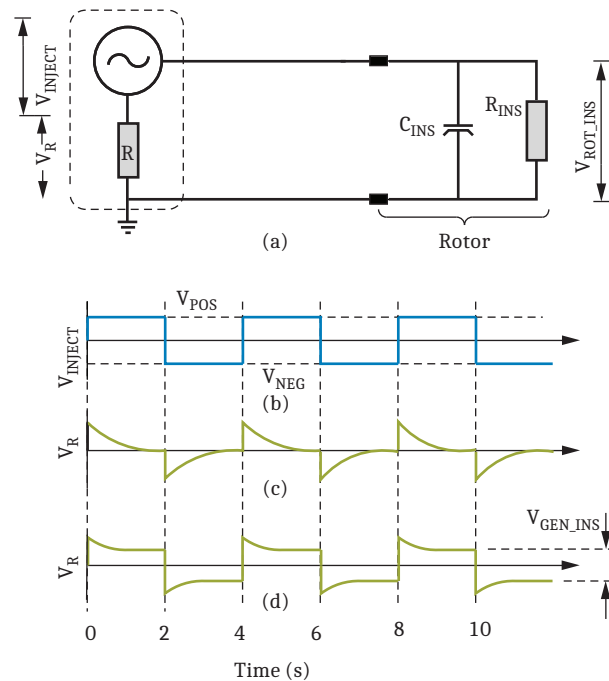

Figure 15 SEL-2664 Circuit Diagram (a); Injected Voltage and Current (b-d)
The equivalent circuit of the SEL-2664 and the generator rotor field is as shown in *Figure 15(a)*. The SEL-2664 applies a pulsating voltage (V_{INJECT}) to the generator field and measures the magnitude of the voltage drop across an internal resistor to ground (R), as shown in *Figure 15(b)*. When the rotor insulation is normal or healthy, the major portion (>95 percent) of the injected voltage is dropped across the rotor insulation (V_{ROT_INS}) and very little voltage is dropped across the resistor internal (V_R) to the SEL-2664, *Figure 15(c)*. When the rotor field experience a ground fault, the major portion of the injected voltage is dropped across the internal resistor, as shown in *Figure 15(d)*.